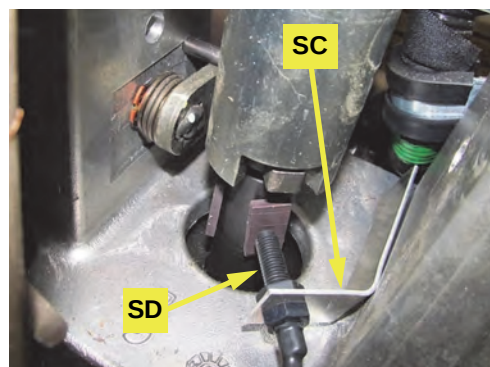

Figure 3b: Switch bracket and switch installation (bracket SC not yet secured)
- b. Attach switch **SD** to switch bracket **SC** (Figure 3b). Remove the nut and bolt securing the right side of the steering shaft bearing block below the lower universal joint (Figure 3b inset). Using this nut and bolt, install the steering switch bracket under the bearing block mounting (Figure 3b).
Twist and bend the switch bracket to align switch **SD** with the magnets and adjust the sensor face to 1/8" to 1/4" away from the magnets (Figure 3b).
Figure 3b with inset: Installed switch bracket and switch
- b. Using the two-part epoxy and aligning its drilled hole with the center of a magnet, attach bracket **SC** to the inner face of the left side of the column support. Install the bracket hole forward, bend inward. Install switch **SD** in switch bracket **SC** (Figure 3b - **SC** not shown as secured yet).